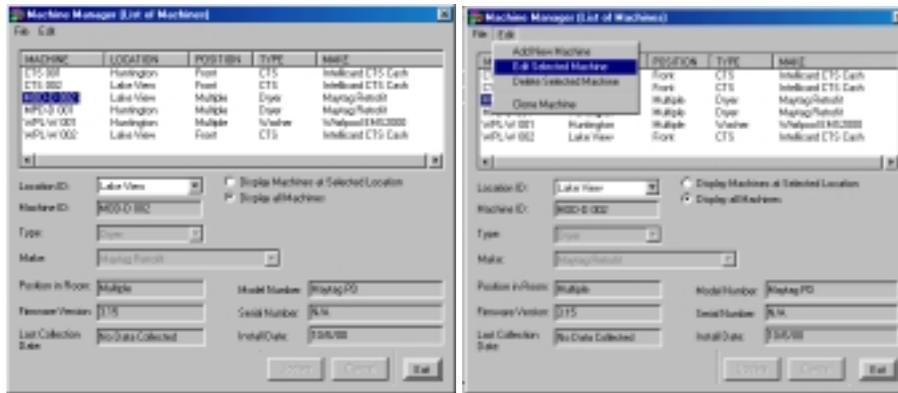

Figure 7.4 Editing Machines
2. Click the machine to edit from the Machine List Window (Figure 7.4).
3. Select Edit Selected Machine from the Edit drop-down menu (Figure 7.4).